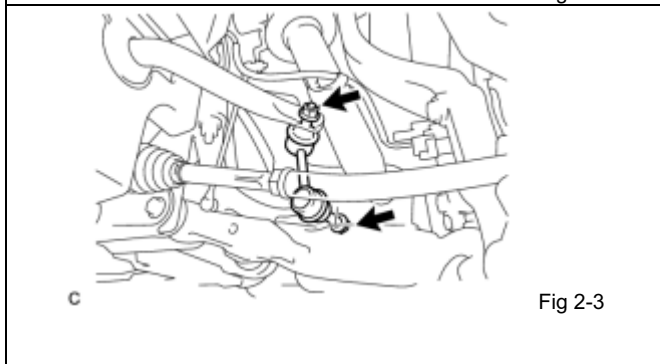

Fig 2-3
- (c) Connect the sway bar links and tighten the nuts. (Fig 2-3)
- (1) If the ball joint turns together with the nut, use a hexagon (6 mm) wrench to hold the stud.